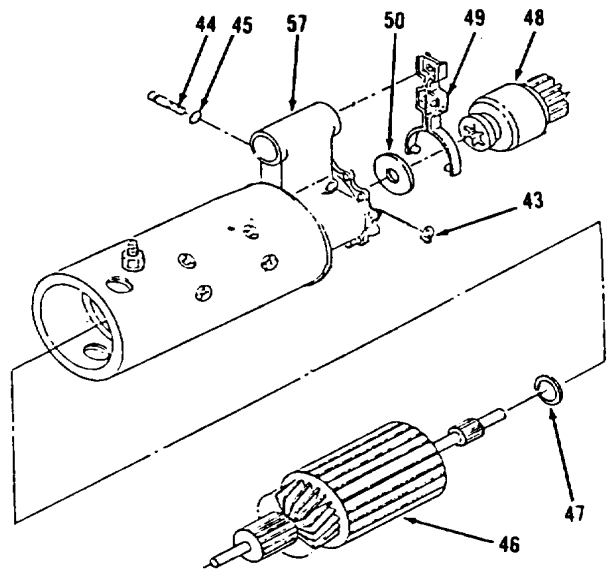
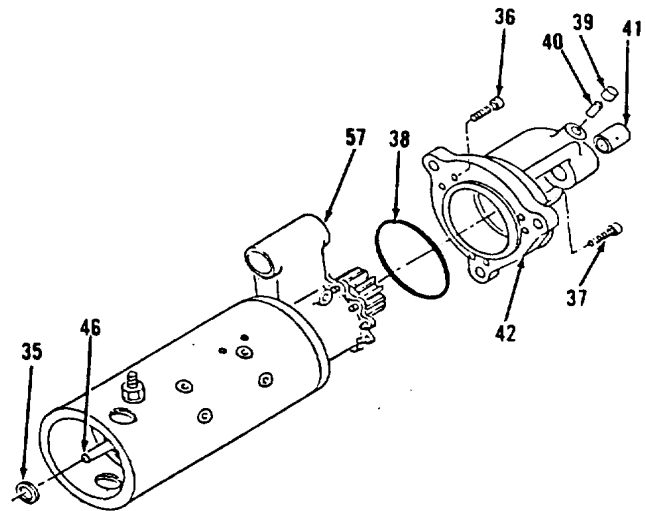

Figure 4-45.
Figure 4-44.
11. Install washer (50), lever (49) and drive (48) in housing (57, Figure 4-45).
12. Install spacer (47) and armature (46).
13. Install two new preformed packings (45), shaft (44) and snap ring (43).
14. Install new bushing (41, Figure 4-44), if removed.
15. Saturate plug (40) with clean engine oil and install in housing (42).
16. Install new cup (39).
17. Coat new preformed packing (38) with general purpose grease and install.
18. Install housing (42), five screws (37) and screw (36) on housing (57).
19. Install washer (35) on shaft of armature (46).